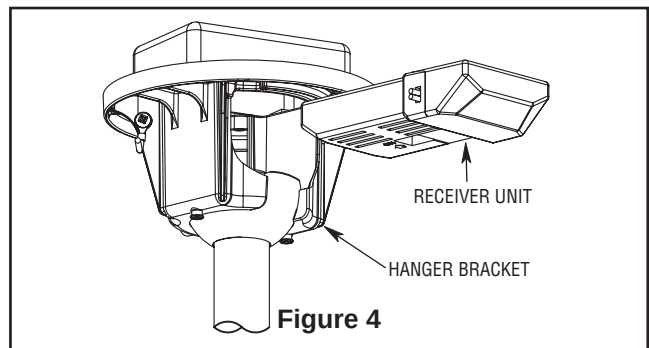

Figure 4
- ☐ 4. Route wires through motor coupling cover, canopy screw cover and canopy (Figure 4).
- ☐ 3. Slide the receiver unit into the open end of the hanger bracket (Figure 4).